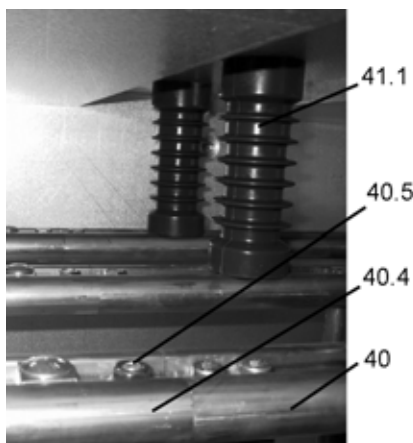
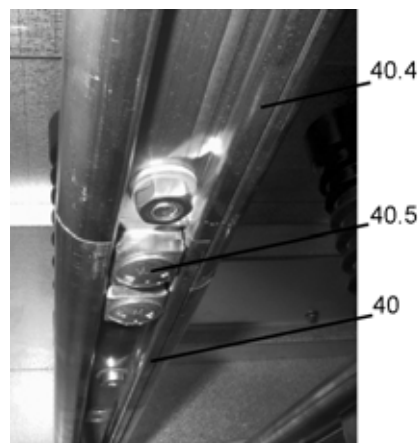

Figure 3.33
Figure 3.34
- 2) Install the busbars (40.4) between the cubicles. The right position of busbars and fasteners can be seen in the Figure 3.33 and Figure 3.34.